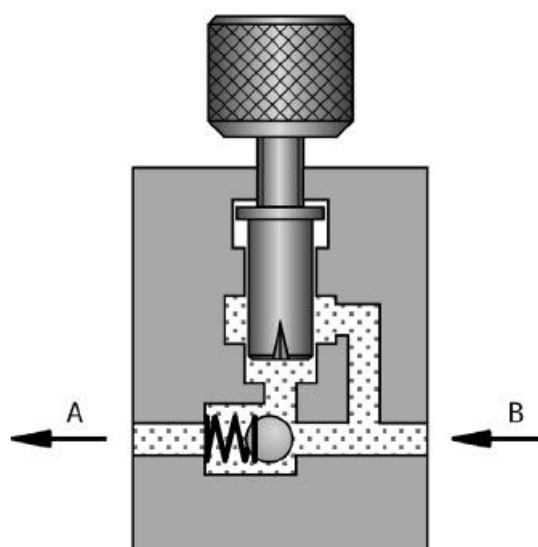

FIG 8.
- C. Flow is not restricted in the opposite direction (B to A) as the sealing cone of the non-return valve is lifted from its valve seat and the full cross-sectional flow is released. (Fig 8)